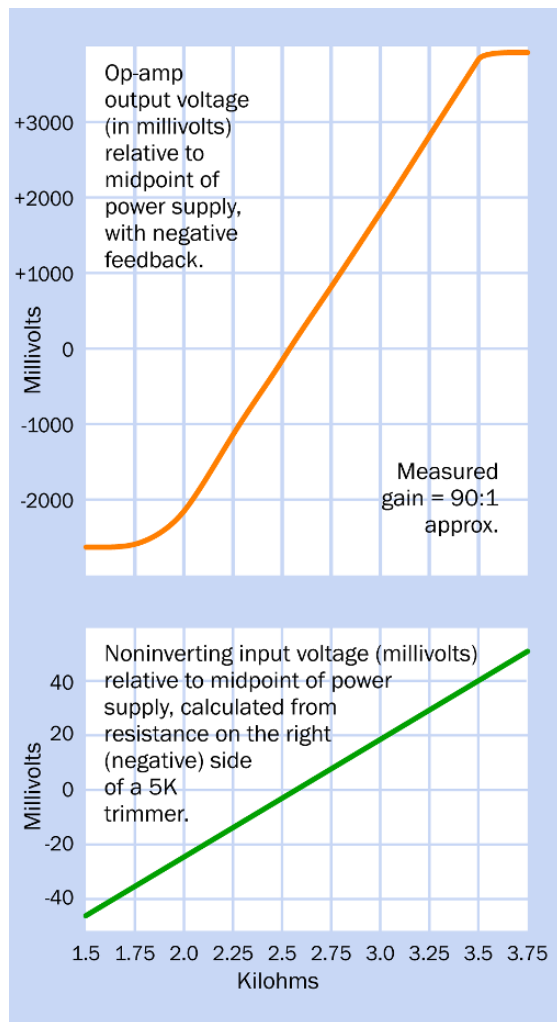
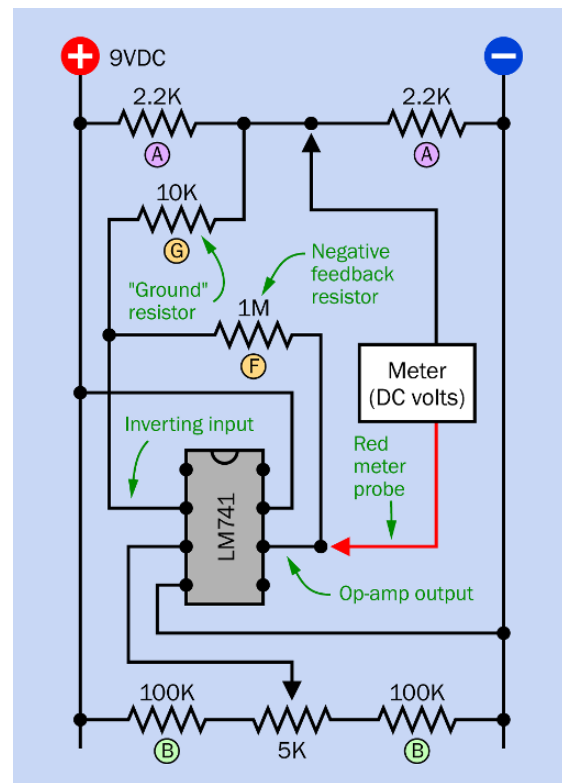
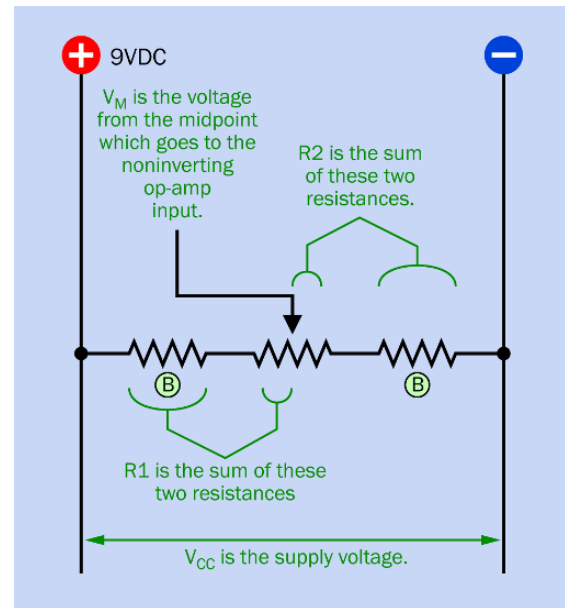

Figure 11-3. The central area of the green input curve is now reproduced correctly in the output curve, as a result of negative feedback.
Figure 11-4. The previous schematic has been modified to introduce negative feedback, by adding two new resistors.
Figure 11-9. The voltage to the noninverting input of the op-amp can be calculated if you know the values shown above.
Take a look at the graph in Figure 11-3, where a linear input causes an almost precisely linear output. This is exactly what we want and is surprisingly easy to achieve. To see it for yourself, make the following revisions to your circuit:
- Add two more resistors, identified as "F" and "G" in Figure 11-4. The photograph in Figure 11-5 shows how this can be breadboarded.
Take care to make the changes in the circuit. Now when you turn the trimmer, you should find that the meter shows the output voltage increasing very smoothly. It doesn't jump from one extreme to the other anymore. In Figure 11-3 there are some tiny deviations in the orange line (which may or may not be visible in the version reproduced here), but I think these are just caused by imperfections in the measuring process. On a breadboard, every socket has some small resistance, and merely wiggling the components will change the measurements that you make, at least to a small degree.
There is an additional factor, here, which is the grounding resistor, labelled G in Figure 11-4. This diverts some of the negative feedback to the midpoint of the “A” voltage divider. In other words:
Looking back at Figure 11-3, the orange line levels off at each end. This seems to suggest that its smooth linear performance breaks down, and indeed it does, but for a very good reason. The output voltage range of the op-amp cannot be greater than the voltage being delivered between the high end and the low end of the power supply. In fact the maximum and minimum output voltages will always be slightly less than the range between the supply voltages, because the op-amp has to siphon off a little power for itself to perform its magic. Consequently, if you increase the input beyond a certain point, you don't get a higher output voltage. When this happens with an audio signal, you hear distortion.
Figure 11-8 shows some input voltages and output voltages that I measured myself, for various settings of the trimmer potentiometer in the circuit in Figure 11-4. These were the numbers that I used to draw the graphs in Figure 11-3. Then I used the graphs to calculate the gain of my op-amp.
Pull the trimmer out of the circuit and measure the resistance between its wiper (the center terminal) and the terminal that connects with the righthand 100K "B" resistor, on the negative side. (See Figure 11-4.) Adjust the trimmer until you measure 1.5K (1,500 ohms).
Measure the voltage of the op-amp output by resetting your meter to DC volts and positioning the probes, as shown in Figure 11-4. Make sure you have the red probe and the black probe in the positions shown. Take care to observe if there is a minus sign before the digits.
You can calculate the input voltage from the resistances and the supply voltage. This would all seem very easy if I could demonstrate it for you with a meter on a lab bench. I can't, so the next-best way is to show you in a diagram, which I have drawn in Figure 11-9. This is a piece of the circuit from Figure 11-4 that contains the "B" voltage divider.